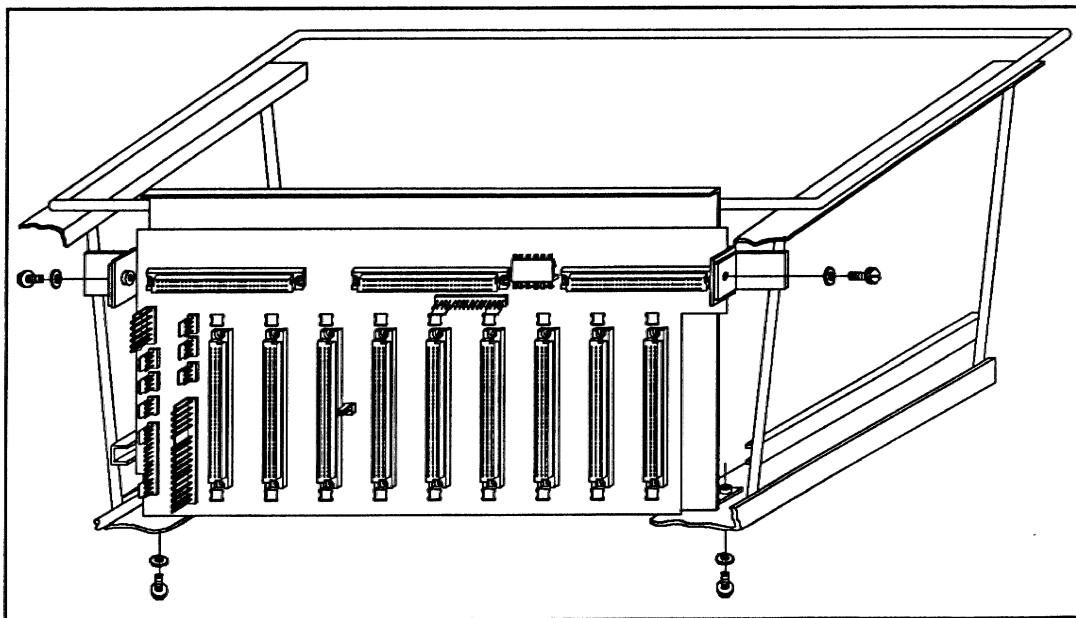

FIGURE 12-1. Mother Board Assembly Removal
f) Remove the hex head screws securing the projector bottom plate to the projector frame. See Figure 12-1.